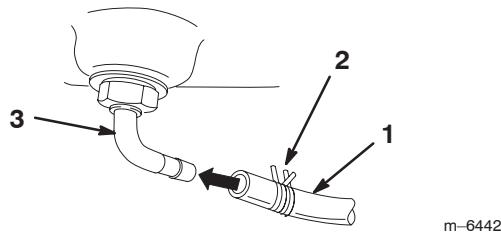

Figure 14
- Slide the hose clamp onto the fuel line (Fig. 14).
- Push the fuel line onto the fuel tank connection and secure it with a hose clamp (Fig. 14).